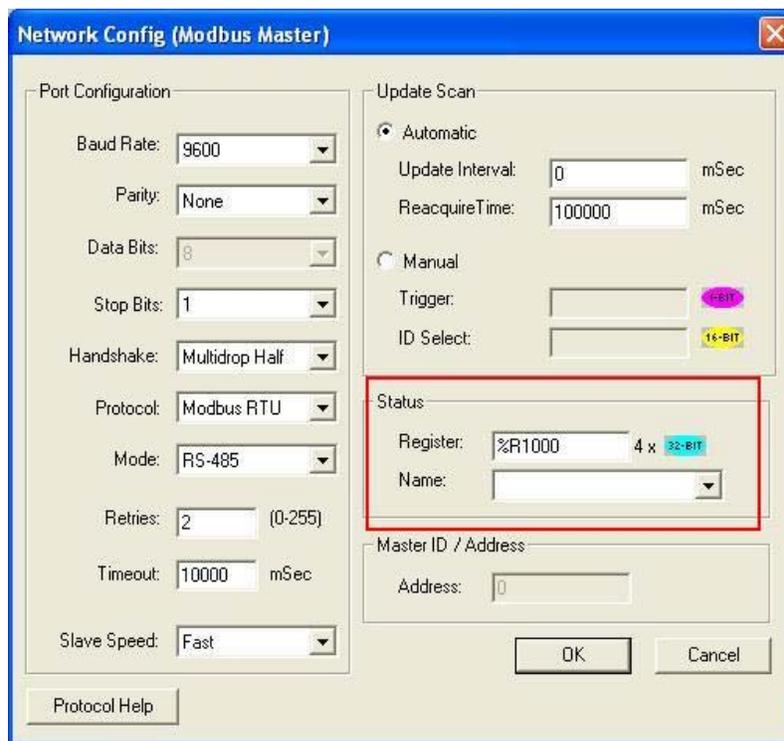

Fig. 12
2. In **Cscape/Protocol Configuration/Network settings**, assign a register as in Fig. 12. The registers are defined below.